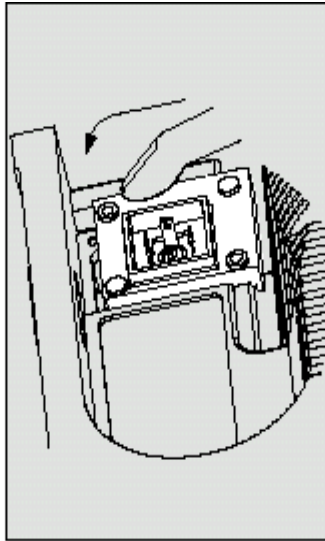

Fig. 18
- Push the relay component through the relay opening, holding the upper corner of the lower edge against the guide rail on the pump base, until the contact of the relay component has reached the controller contact. (See fig. 18: test: can you still move the end of the circuit back and forth?)